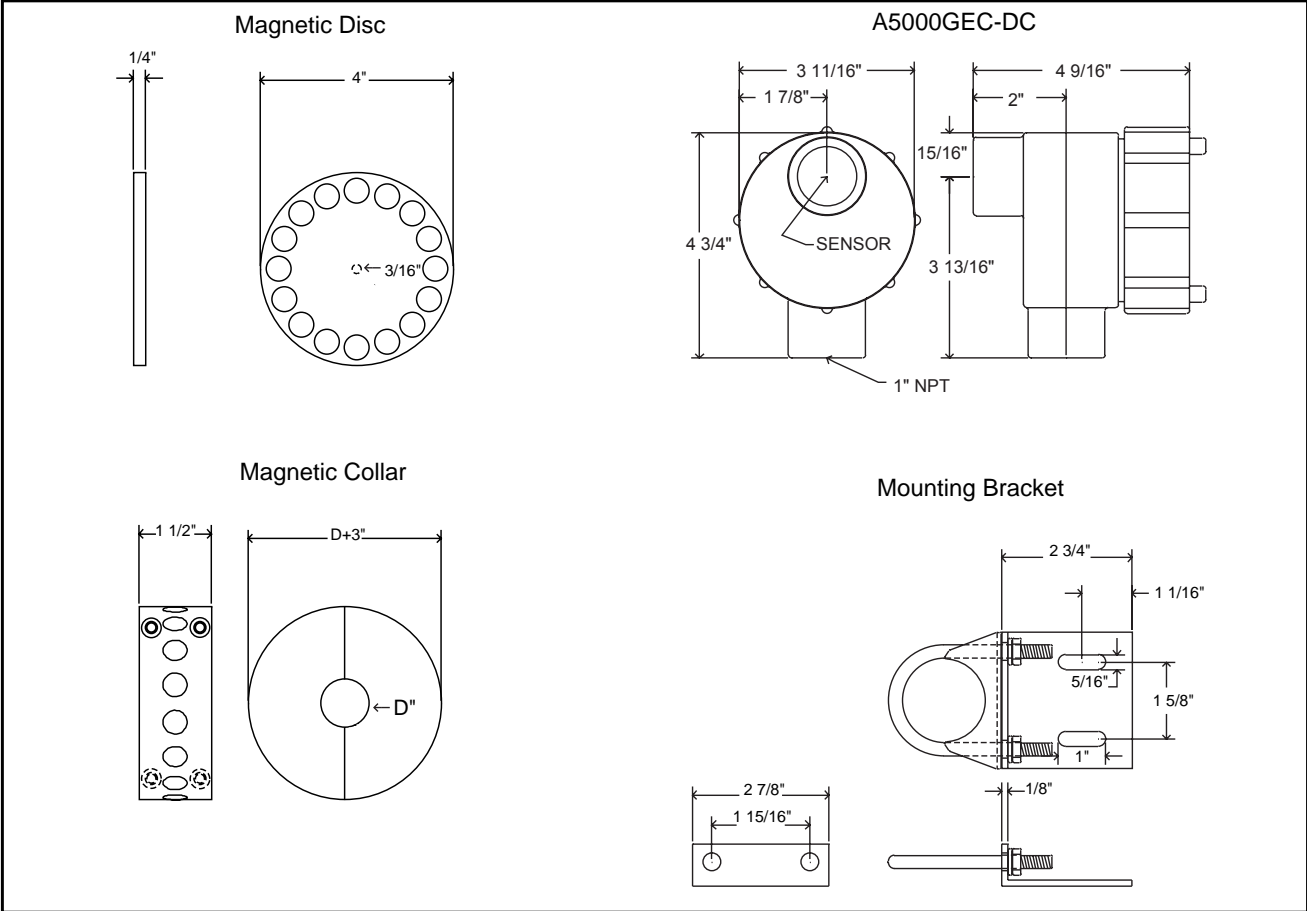

Figure 2
4.1 The A5000GEC-DC zero speed switch housing is certified for Class I, Div 1 & 2, Group D. Class II, Div. 1 & 2, Group E, F, & G. Class III. (see figure 2, page 3)